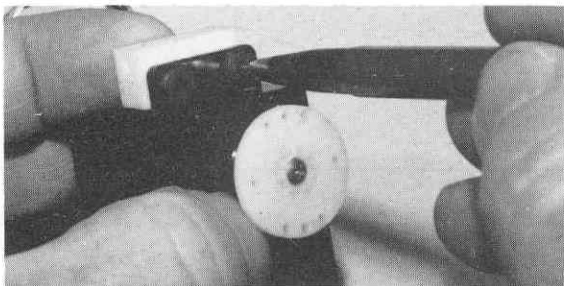
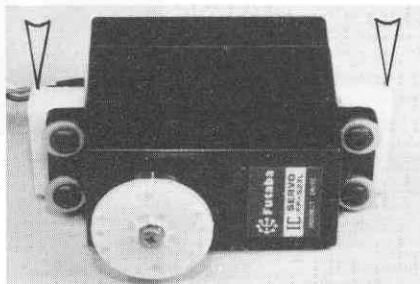

Fig. 164
Fig. 165
□ **Fig. 164** Mark the servo mounts for drilling. Note that the mounts are turned the "wide way" on both sides of the servo (see Fig. 165). Position the servo as high as possible on the mounts before marking.
□ **Fig. 165** S27 servo with mounts installed.